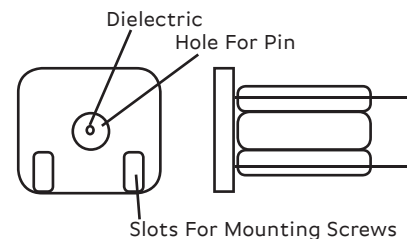

Figure 4. Edge Launch connector with slots for mounting screws to allow vertical adjustment.
2. The connector body can edge mount directly to the rigid, integral chassis formed by the ground plane of the circuit board. Vertical slots, rather than holes, in the flange for the mounting screws ease alignment of the connector body. The pin soldered to the trace on the board forms a reliable strain free assembly, as illustrated in Figure 4.